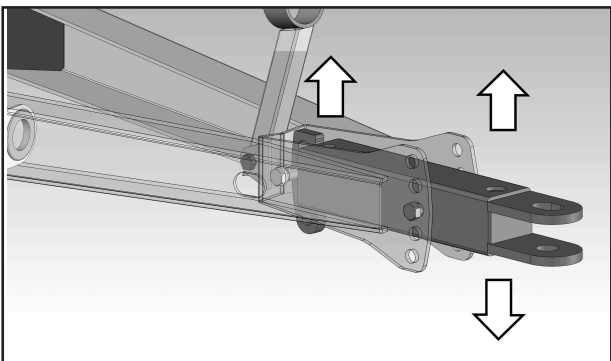

Figure 21 – Bagger levelled with towbar.
7) Level the machine by using the adjustable towbar as shown in figure 21.